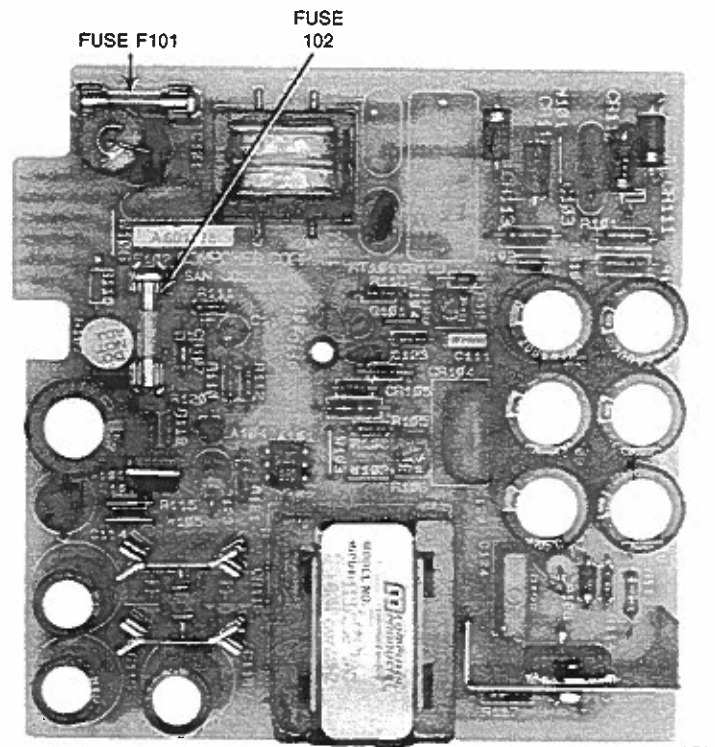

Figure 7-2. Power Supply Board Fuses
4. If replacing a power supply board fuse, remove the fuse in the socket designated F101 or F102. Replace F101 with a 3A, 250 V fuse. Replace F102 with a 2 A, 250 V fuse. Reverse Steps 1 through 3 to reassemble. Refer to Figure 7-2 for location.